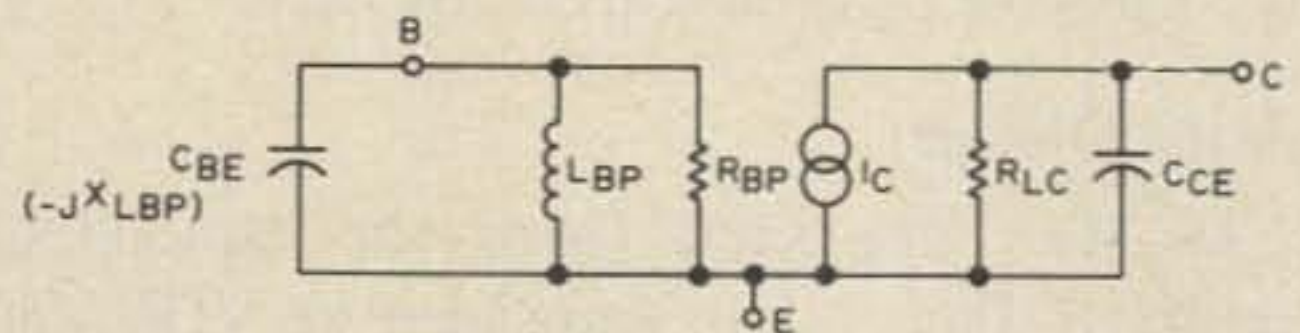

Fig. 11a.
2. By selecting a capacitor with a value $-jX_{LBP}$ — we can resonate out the base inductance. The capacitor is placed as shown in Fig. 11a.